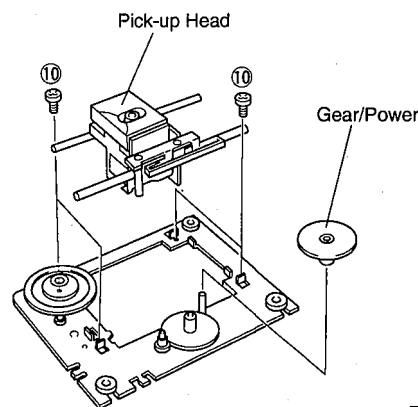

Fig. 6
- c. Pull out the Gear/Power as shown in Fig. 6.
- d. Remove 4 screws (⑩) and then remove the Pick-up Head as shown in Fig. 6.